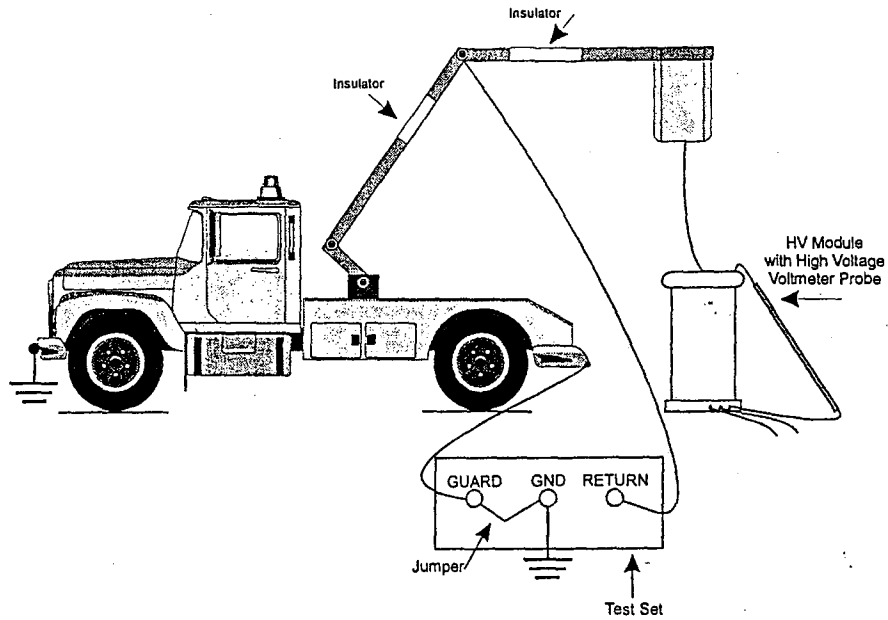

Figure 6 ANSI Test on the Upper Insulated Arm of a Double Insulated Boom Truck
1. Connect the low end of the test sample to ground with a conductor large enough to carry the rated output current of the system. Connect the high end of the test sample to the output bushing of the transformer. In general, aluminum or copper pipe is the most suitable material to use for this purpose. Use a minimum size of 1 inch OD per 100 kV. Keep all surfaces smooth and free of any sharp edges. Figures 6, 7, 8, 9, and 10 detail the connections to boom trucks. Figure 11 depicts a flashover test on a bucket liner in water.